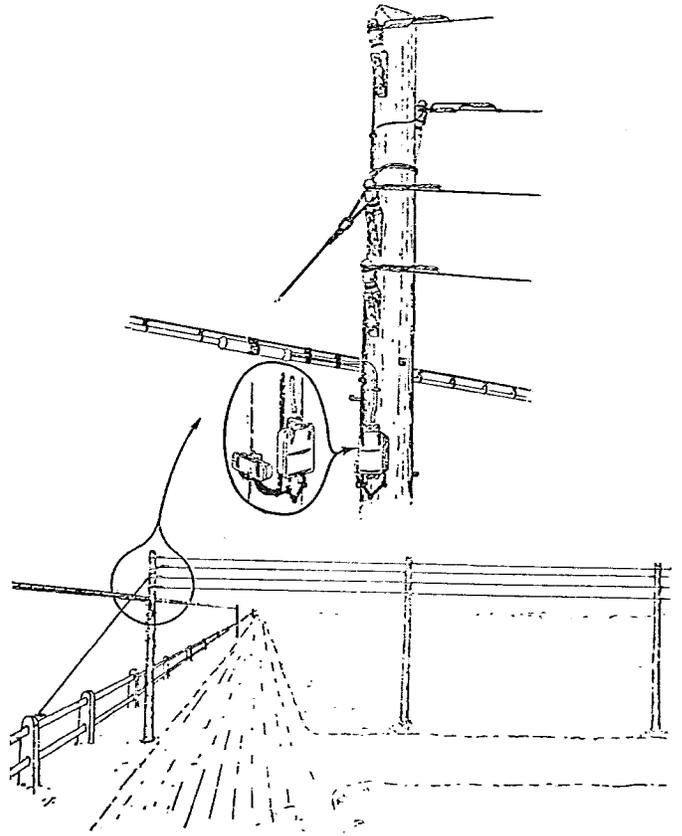
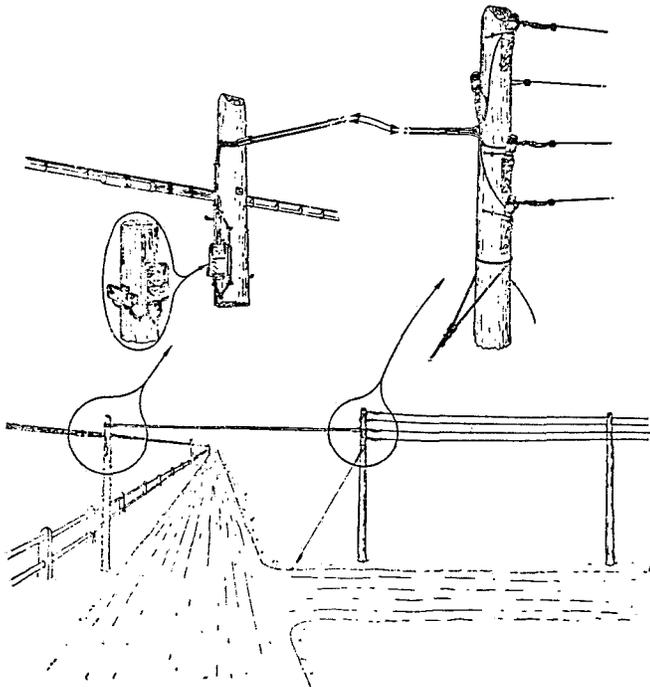

Fig. 8
Fig. 9
3.01 For side leads where there will never be more than four wires, run bracket lead to main line pole, if clearance conditions permit, and bridle on pole from terminal through protector mounting to open wire. See Fig. 8.
3.02 Where side lead consists of exchange circuits and clearance conditions do not permit of the practice shown in Fig. 8, run drop wire from side lead to main lead as shown in Fig. 9. Place drop wire and attachments in accordance with the Practices covering Drop and Block Wiring.